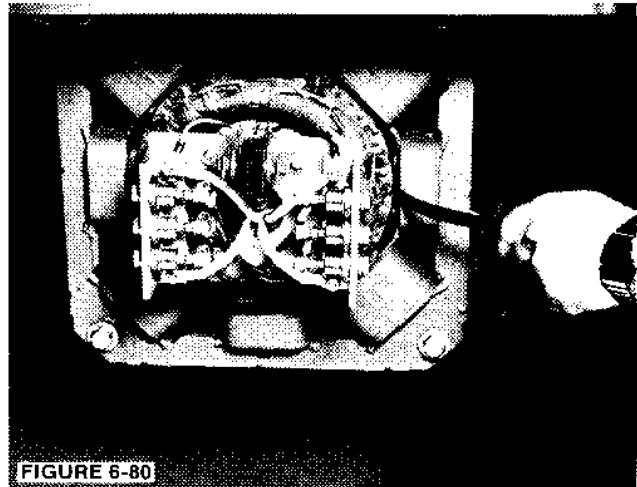

FIGURE 6-80
8. Check the exciter air gap (gap between the exciter armature and stator) by inserting a .010 inch feeler gauge in the gap and rotating it around the armature diameter to ensure that a minimum air gap is available. (See Figure 6-80.) If the feeler gauge cannot be rotated one full revolution, then check for a "cocked" exciter stator or loose stator mounting capscrews.